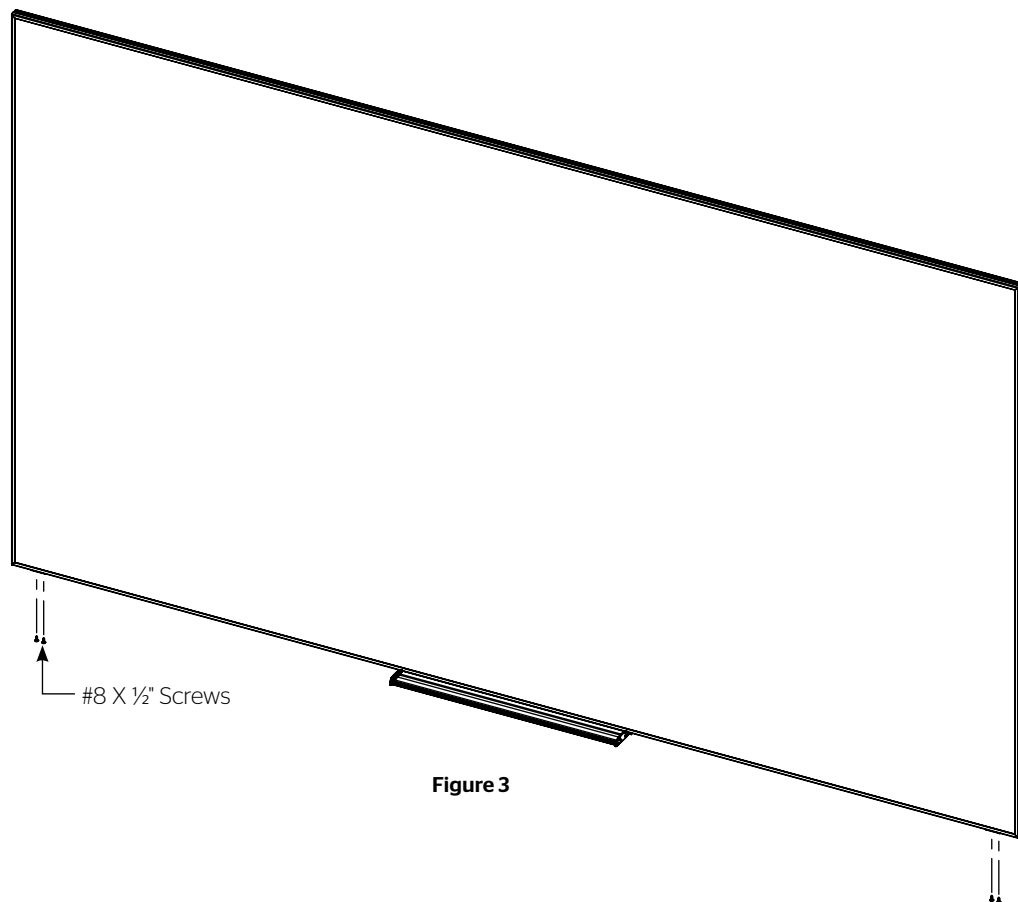

Figure 3
5. Tap the bottom of the two L-brackets with the rubber mallet until they make contact with the frame. Secure the two L-brackets to the frame with the remaining (4) #8 x ½" screws (Figure 3).